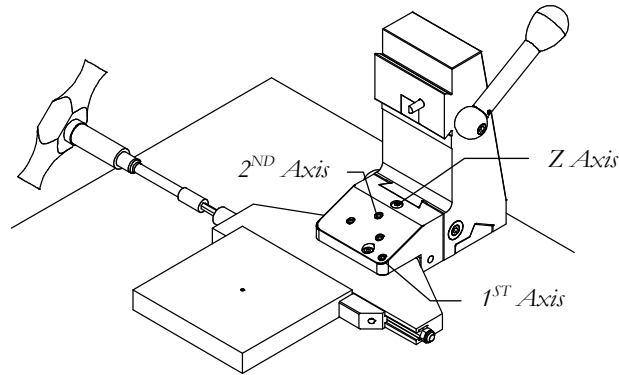

Figure 1
STEP 1. CLAMPING THE WORK PIECE (A). Insert the V08/TD02 onto the MCD01 or PS01 presetting station. **(B).** Push the torque handle down slightly with one finger - do not click the handle. Make sure the TD02 is bottomed out on the surface plate. If it is not touching the surface plate then turn the z-axis screw counter clockwise until the TD02 touches the surface plate.
STEP 3. Clamp the work piece in the V06 vise using the THW07 hex torque wrench as shown in Fig. 1. Do not use any other hex wrench. **DO NOT OVER TIGHTEN.** The vise knob contains a shear pin that will shear at 1 1/2 times the torque from the THW07 torque wrench. If the shear pin breaks, a spare shear pin can be installed. Contact the factory for any problems.